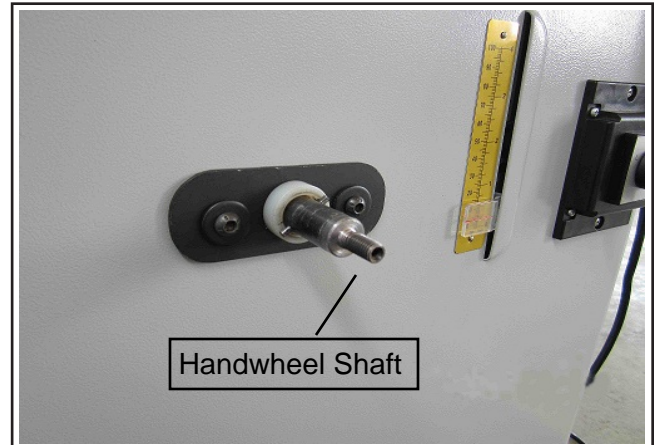

Figure 2. Location of handwheel shaft.
1. Insert the handwheel on the handwheel shaft shown in **Figure 2**, notes the key on shaft matching to handwheel concave.